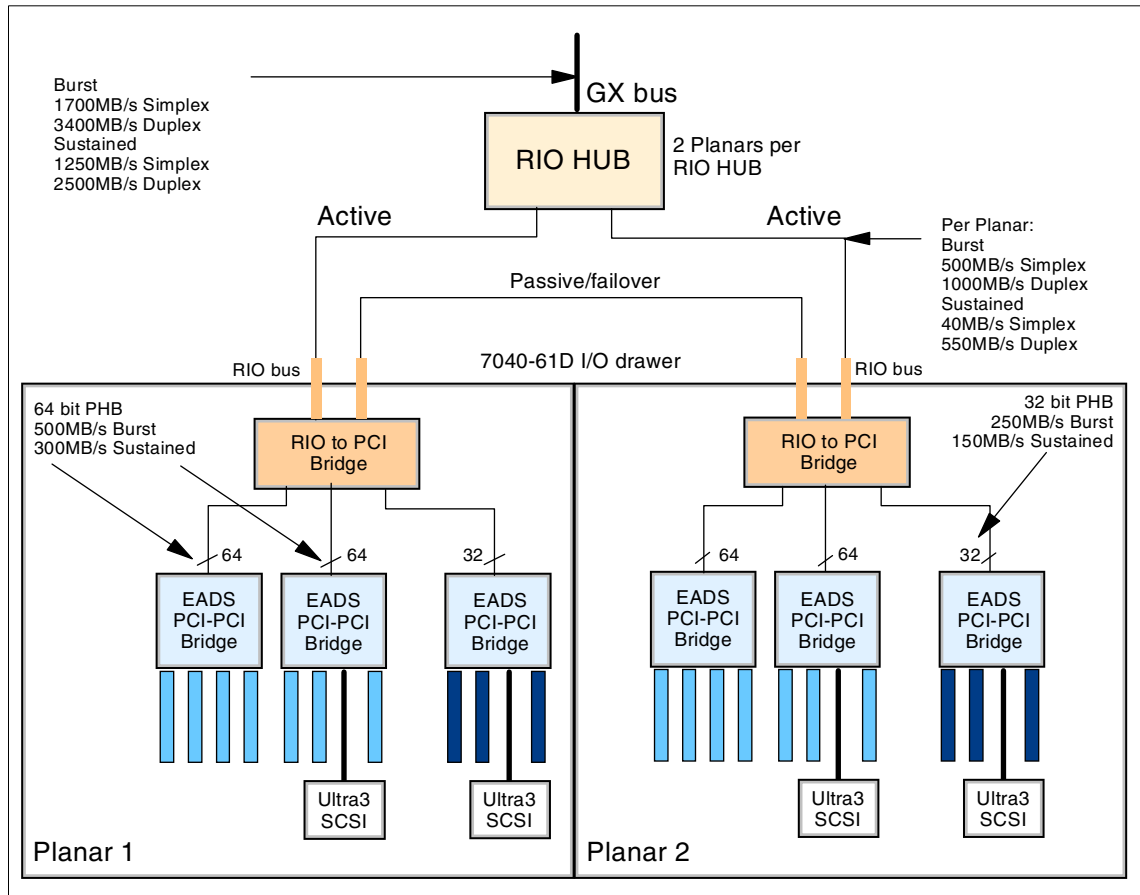

Figure 2-6 The many stages of the RIO subsystem
There are two halves to each RIO drawer. One half is referred to as *Bonnie*, and the other half is referred to as *Clyde*. The RIO subsystem (Bonnie plus Clyde) consists of two planar I/O boards (20 PCI slots total), two riser cards, up to 16 disk drives (capacity for more than 500 GB of disk storage), four DASD backplanes (two each per Bonnie or Clyde, refer to Figure 2-6 on page 24), a midplane card, four blower fans, and two DC power supplies (DCAs). Each planar I/O board (Bonnie or Clyde) can hold up to ten PCI cards and a riser card.
The pSeries 690 RIO is illustrated in Figure 2-6 on page 24. This figure includes the bandwidths and bus sizes for the PCI slots. Planar 1 is Bonnie, and Planar 2 is Clyde.
**Notes for Figure 2-6:**